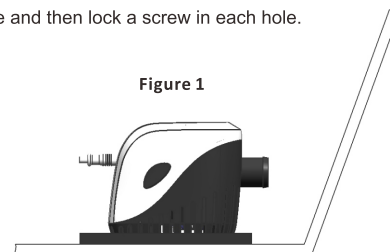

Figure 1
2. If the pump is to be mounted on the baffle, install the pump smoothly at the lowest level of the bilge. To ensure that the outlet position is horizontal, if too high or too low, the pump will inhale the air causing clogging. (See Figure 1)
3. Mark location of the three (3) mounting holes with a pencil or scribe.